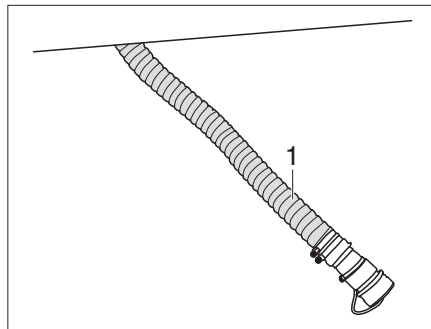

Fig. 302 Emptying the cassette of the macerator toilet
- Detach the drain hose (Fig. 302,1) below the vehicle and position it into the disposal station.
- Leave the drain hose (Fig. 302,1) in the disposal station.
- Store the drain hose (Fig. 302,1) under the vehicle.